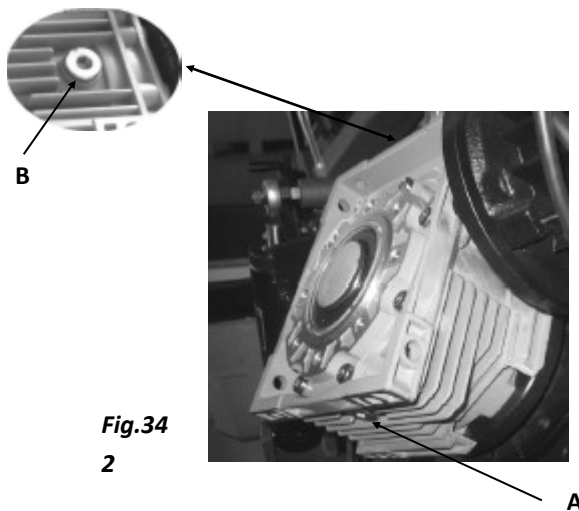

Fig.34
- Draw off gear oil by loosening the Hex Head Screw (A) Fig.34
- Fill Gear box with approximately 0.6 litre of gear oil through the hole of the Vent Screw (B). Fig.34